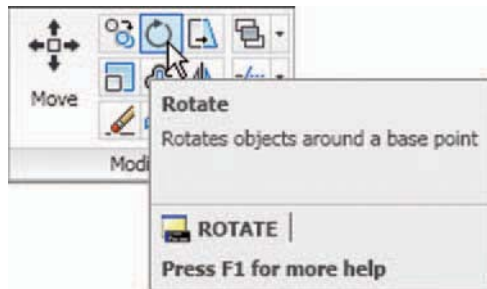

Fig. 5.26 The **Rotate** tool icon from the **Home/Modify** panel
2. Call **Rotate** – *left-click* on its tool icon in the **Home/Modify** panel (Fig. 5.26), *pick* its tool icon from the **Modify** toolbar, *pick Rotate* from the **Modify** drop-down menu, or *enter ro* or *rotate* at the command line.